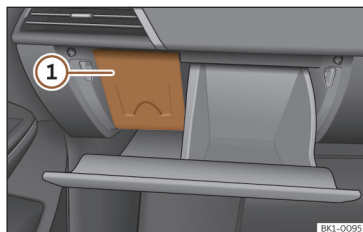

Fig. 180 Right-hand drive vehicles: fuse box cover under the passenger side dash panel.
- Remove the cover from above >>> **Fig. 180**